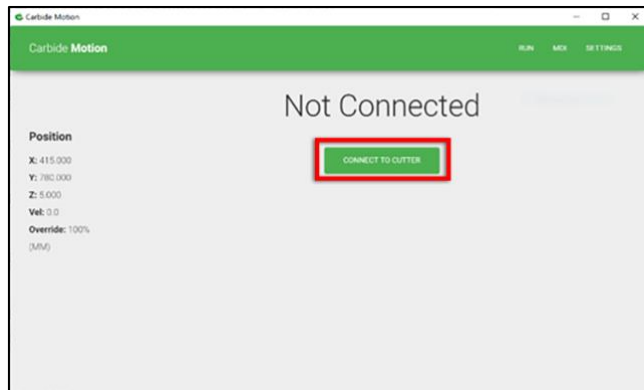

Figure 14
2. Power on the Shapeoko, then click the **Connect to Cutter** button. See *Figure 14*.